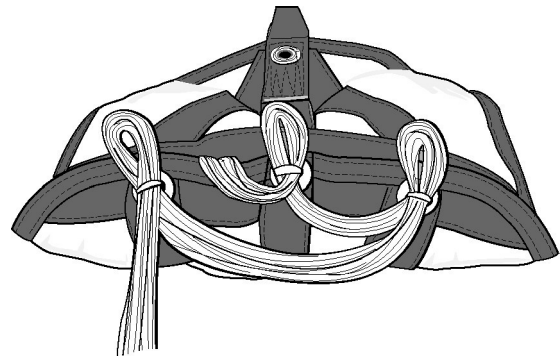

Figure 17. Third Suspension Line Group Stow
g. Make the third stow on the left-side by forming a loop in the suspension line group, wrap pull up cord around the suspension line group and pull it through the left locking loop until 1 to 1 1/2-in. protrude past the loop. Remove pull up cords (Figure 17).